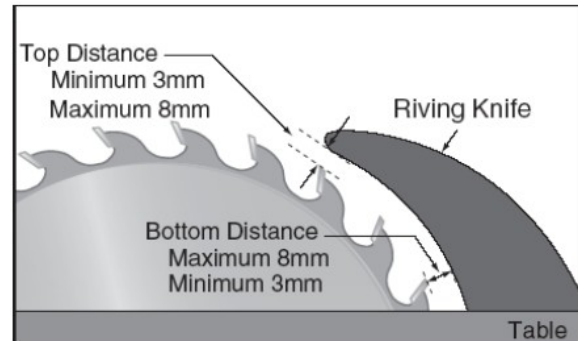

Figure 18
**DO not** use the riving knife with a dado blade as the riving knife height will exceed that of the blade height causing your work piece to hit the riving knife during cutting operations putting the operator at risk of property damage or even personal injury. **See figure 18.**